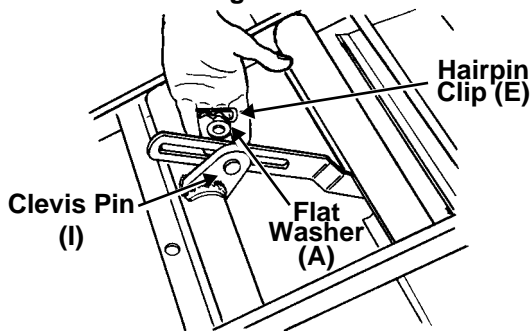

Figure 11
- Secure the stabilizer link to the hitch bar assembly with clevis pin (I), flat washer (A) and hairpin clip (E), as shown in Figure 11.